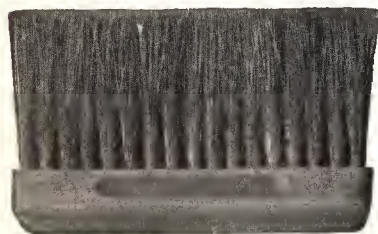

FIG. 20
**Wall Stippling Brush, Figure 20:** It is almost impossible to paint a smooth plastered wall with an ordinary